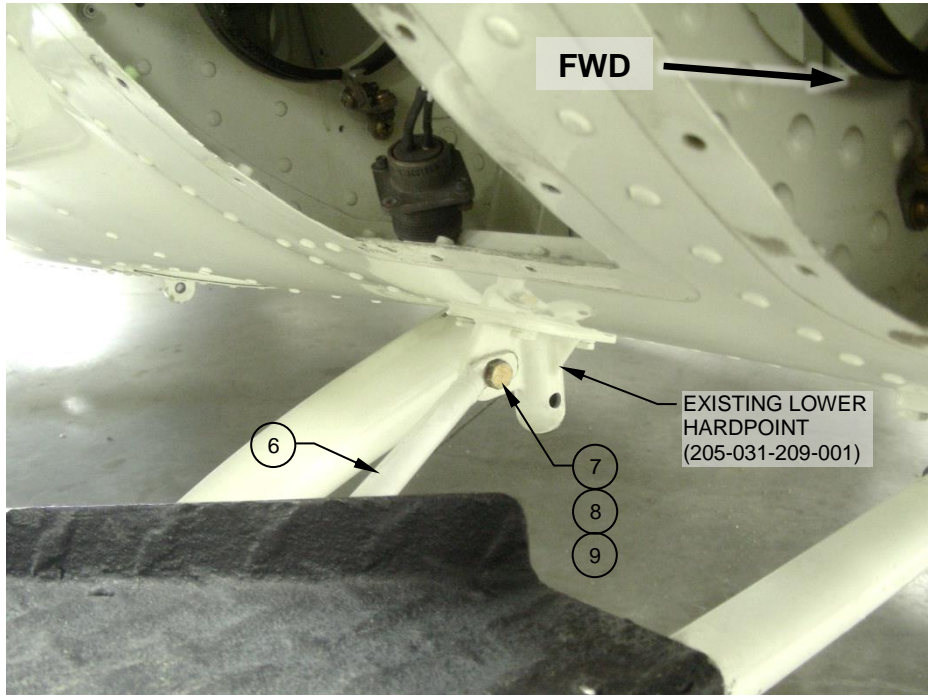

Figure 4
10. Install Strut, Assy (Item 6) to the welded tang on FWD INBD side of Step, Assy, RHS (Item 1) using bolts (Item 8), self-locking nuts (Item 9) and washers (Item 7). Reference Figure 4.
11. Position the opposite side of the Strut, Assy (Item 6) to FWD face of existing lower hardpoint (205-031-209-001) Reference Figures 4 & 5. Clamp in place and transfer the hole from the hardpoint into the tang using a letter "O" diameter drill ($\varnothing .316$ ").